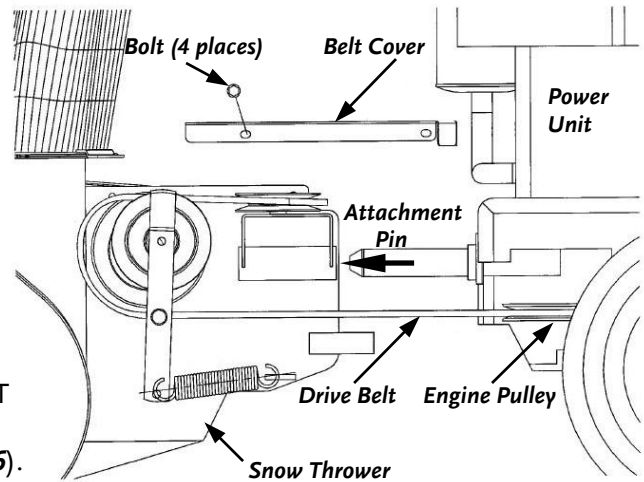

Figure 6
1. Apply a thin coating of #2 Lithium Grease on the Attachment Pin (**Figure 6**).
2. Remove the four (4) Belt Cover Retaining Bolts using a 1/2" Wrench or Socket and remove the Cover (**Figure 6**).
3. Line up the DR SNOW THROWER ATTACHMENT with the Power Unit Attachment Pin and slide the Pin into the socket on the Snow Thrower (**Figure 6**).
5. Locate the Snow Thrower Drive Belt and make sure to install it on the Engine Pulley below the Power Unit (**Figure 6 or 8**).
8. Reinstall the Belt Cover and secure in place using the four (4) Belt Cover Retaining Bolts. Tighten the Bolts using a 1/2" Wrench or Socket (**Figure 6**).
2. Remove the four (4) Belt Cover Retaining Bolts using a 1/2" Wrench or Socket and remove the Cover (**Figure 6** or **8** on page 13).
5. Reinstall the Belt Cover and secure using the four (4) Belt Cover Retaining Bolts. Hand tighten the bolts for storage (**Figure 6** on page 13).